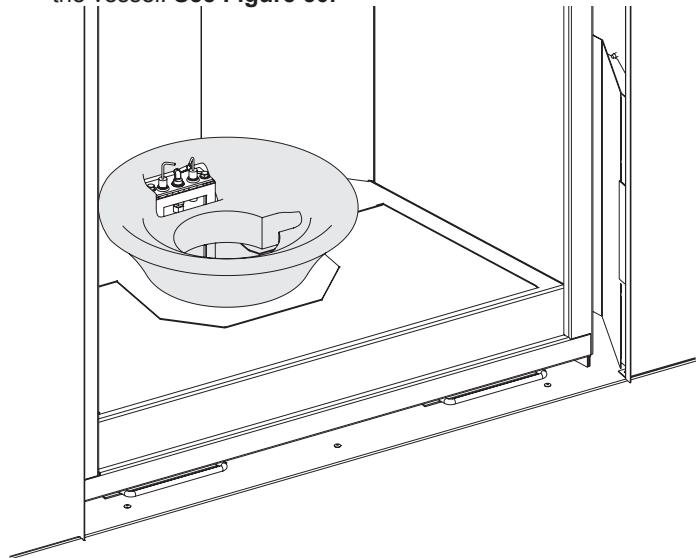

Figure 50
4. Place Decorative Media Vessel over pilot in center of firebox floor. Pilot will protrude through the rectangular opening in the vessel. **See Figure 50.**